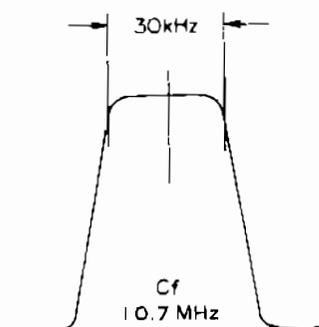

Figure 2
- Adjust T1005, T1006 and T1007 until the scope pattern illustrated in Figure 2 is obtained.